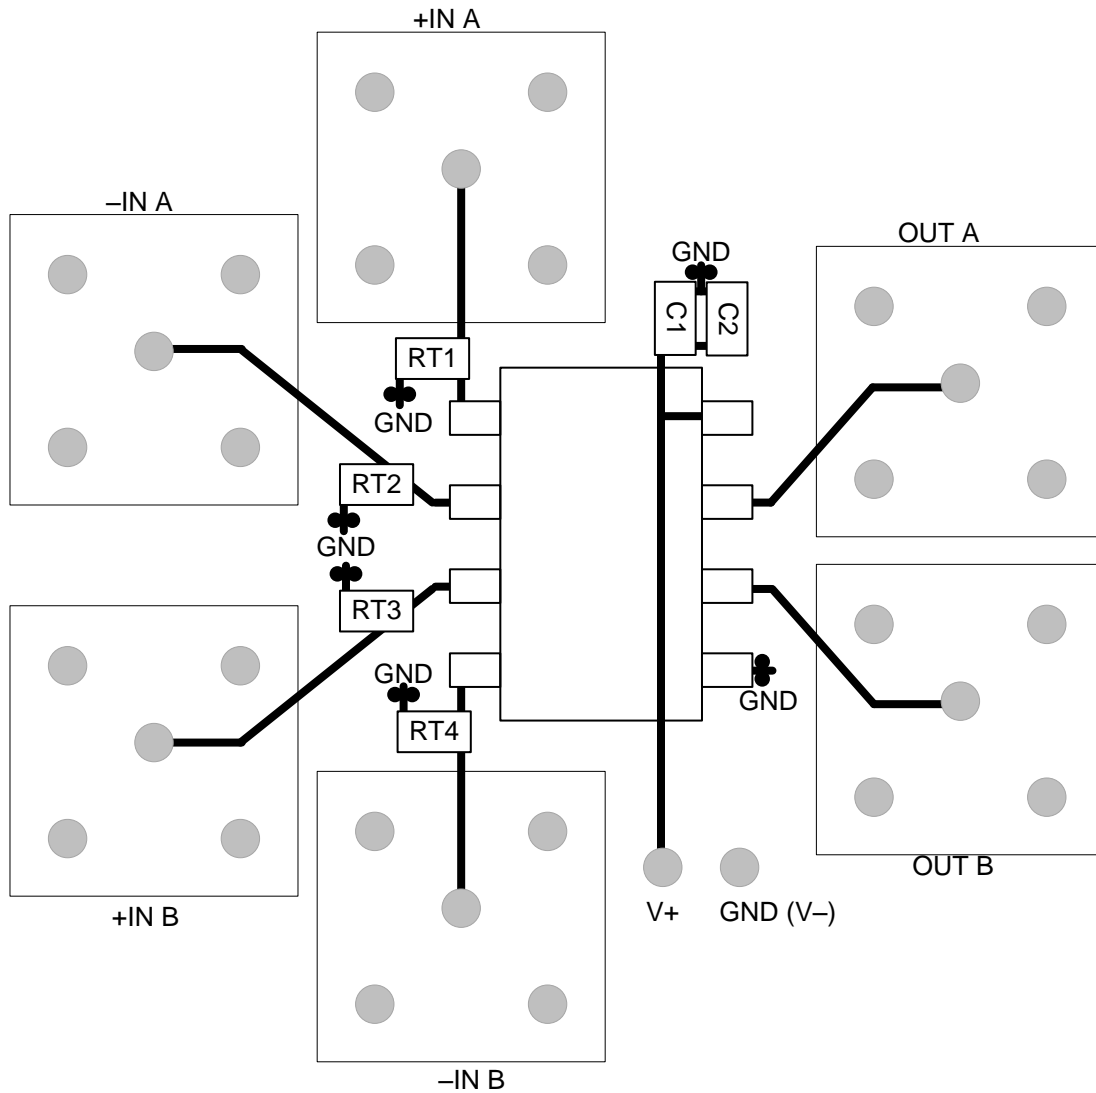
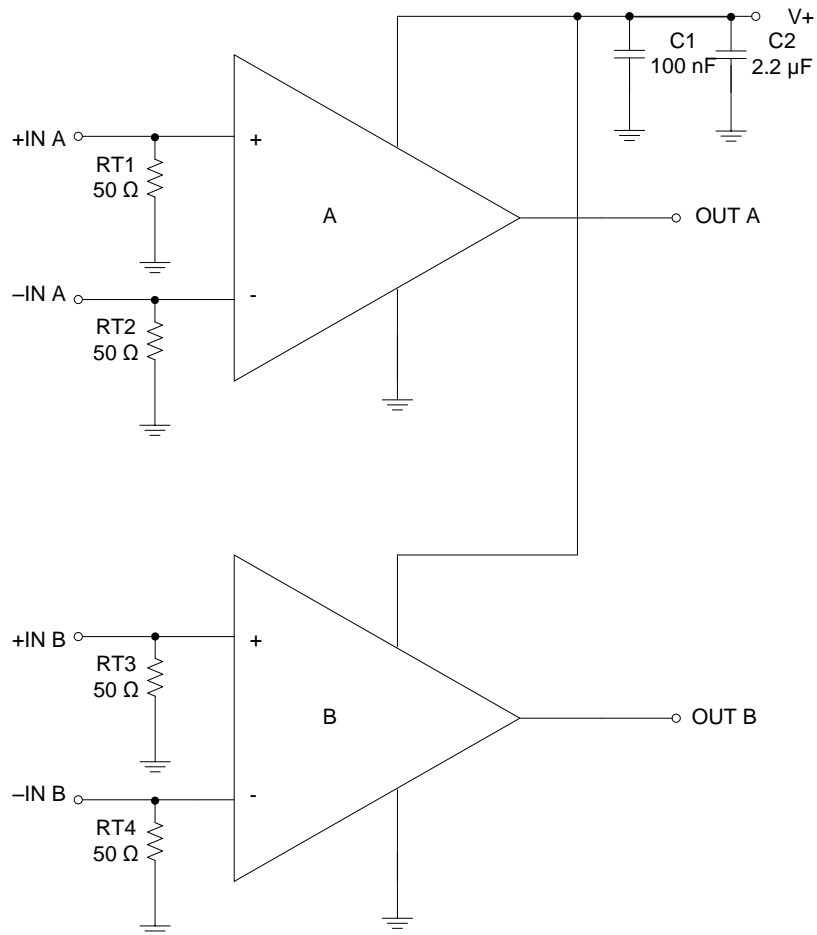

Figure 21. TLV3502-Q1 Sample Layout
Figure 22. Schematic for Figure 21
- Figure 21 shows an evaluation layout for the TLV3502-Q1 SOT23-8 package. The device is shown with SMA connectors bringing signals on and off the board. RT1, RT2, RT3 and RT4 are termination resistors for + IN A, + IN B, –IN A, and –IN B respectively. C1 and C2 are power-supply bypass capacitors. Place the 0.1- μF capacitor closest to the comparator. The ground plane is not shown, but the pads that the resistors and capacitors connect to are shown. Figure 22 shows a schematic of this circuit.